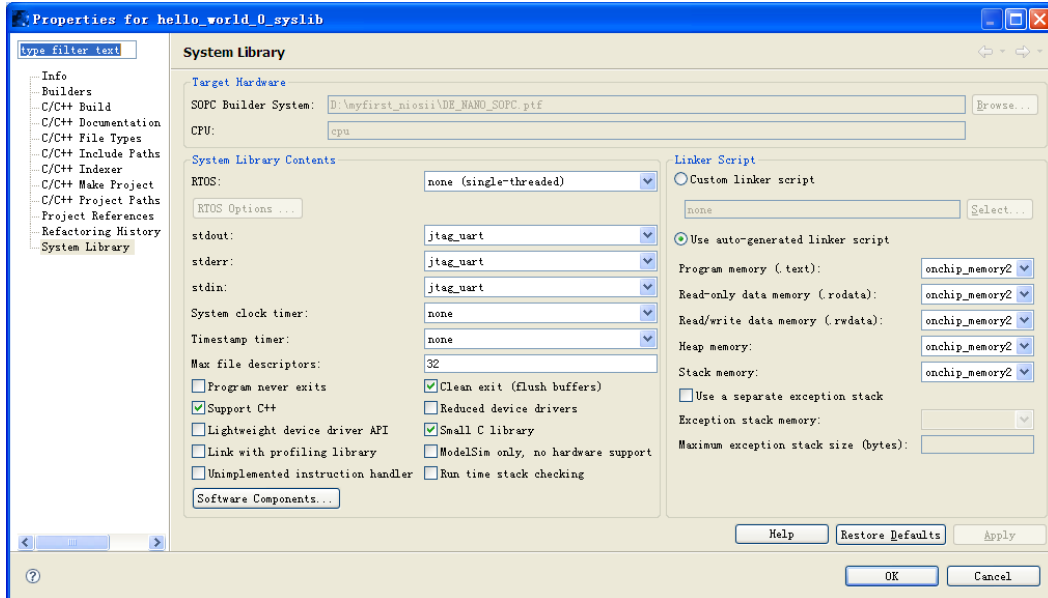

Figure 7-61 Configuring System Library Properties
3. In the **Linker Script** box, observe which memory has been assigned for **Program memory(.text)**, **Read-only data memory(.rodata)**, **Read/write data memory(.rwdata)**, **Heap memory**, and **Stack memory**, see **Figure 7-61**. These settings determine which memory is used to store the compiled executable program. You can also specify which interface you want to use for `stdio`, `stdin`, and `stderr`. You can also add and configure an RTOS for your application and configure build options to support C++, reduced device drivers, etc.
4. Select **onchip_memory2** for all the memory options in the **Linker Script** box, as shown in **Figure 7-61**.